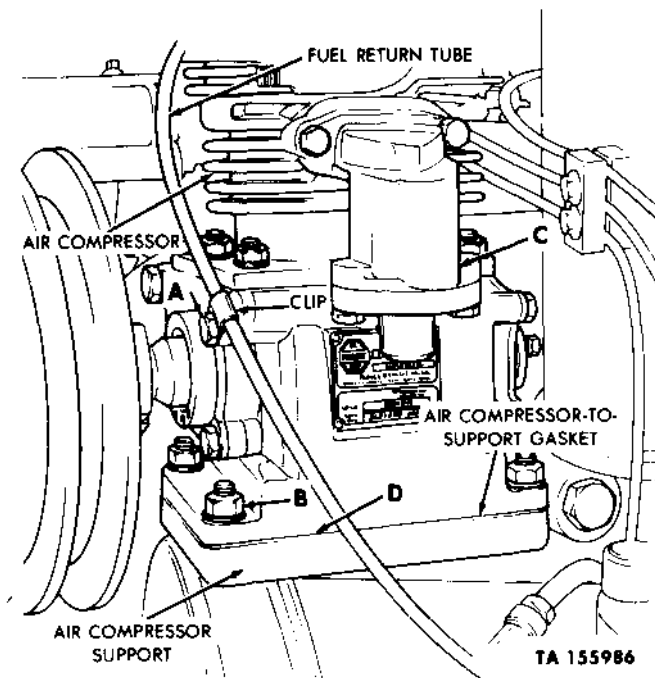

Figure 2-195. Air compressor—multifuel models.
- (d) Remove capscrew and clip holding the fuel return-to-fuel injector pump overflow valve tube to air compressor. Install capscrew on air compressor tube inlet (fig. 2-195).
- (e) Remove four plain nuts and lockwashers securing air compressor assembly to the air compressor support assembly (fig. 2-195).
- (f) Remove air compressor assembly, and discard the air compressor-to-support gasket (fig. 2-195).
(a) Using a new gasket, position air compressor to the support assembly, and secure it with four nuts and lockwashers (fig. 2-195).
(b) Remove capscrew from air compressor tube inlet. Position the fuel return-to-fuel injector pump overflow valve tube to the air compressor, and secure it with the capscrew and clip (fig. 2-195).